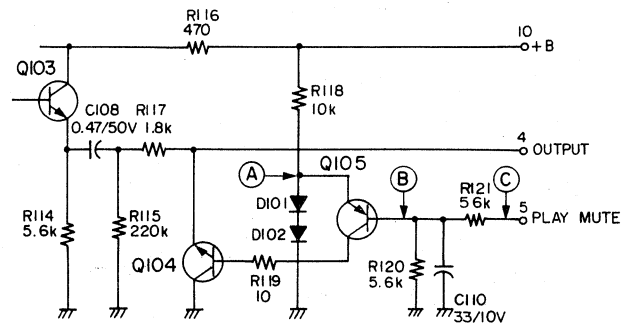

Fig. 3 (On play EQ unit)
Point (A) of Fig. 3 requires a voltage potential of 2 times the forward direction voltage drop of the silicon diodes (D101, D102) of 0.6 V (total 1.3 V) to maintain its state. This is the emitter voltage to stabilize Q105 and opposes the Muting Signal. This signal stabilizes the Muting signal during repeated ON/OFF operations. When point (C) is approx 0 V, the base current of Q105 flows from the emitter through R120 and Q105 goes ON. The collector current of Q105 becomes the base current of Q104 and Q104 also goes ON. The Playback output signal depends on the ratio of the resistance of R117 and the impedance of Q104. (When Q104 is ON,  $Z \approx 0$  ohms). At this time Muting is ON. (Output signal is shorted to ground). Then when approx. +24 V is supplied to point (C), the voltage at point (B) ( $V$  point B  $\approx \frac{24 V \times R120}{R120 + R121}$ ) is applied. Since the voltage potential is high, Q105 goes OFF. Then Q104 also goes OFF and muting is released. C110 opposes the muting signal so that the muting effect change will occur smoothly. Also it serves to make muting OFF occur slowly and muting ON occur quickly.